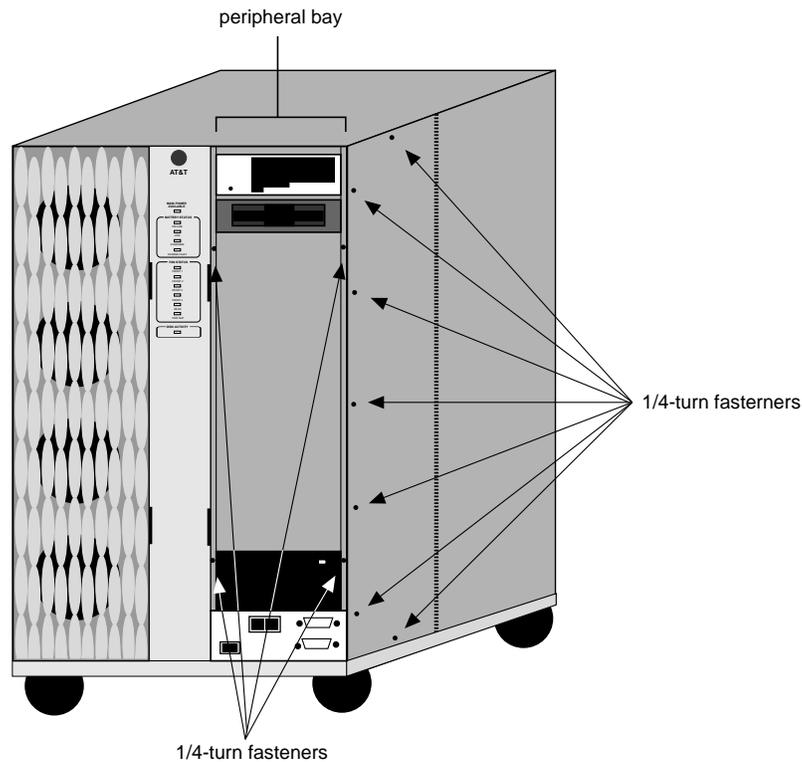

Figure 4-7. 1/4-Turn Fasteners Around the Peripheral Bay and Peripheral Bay Access Door
3. Loosen the four 1/4-turn fasteners around the perimeter of the peripheral bay (Figure 4-7).
4. Loosen the seven 1/4-turn fasteners around the perimeter of the peripheral bay access door (Figure 4-7).
6. Tighten the seven 1/4-turn fasteners around the perimeter of the peripheral bay access door (Figure 4-7).
7. Tighten the four 1/4-turn fasteners around the perimeter of the peripheral bay (Figure 4-7).